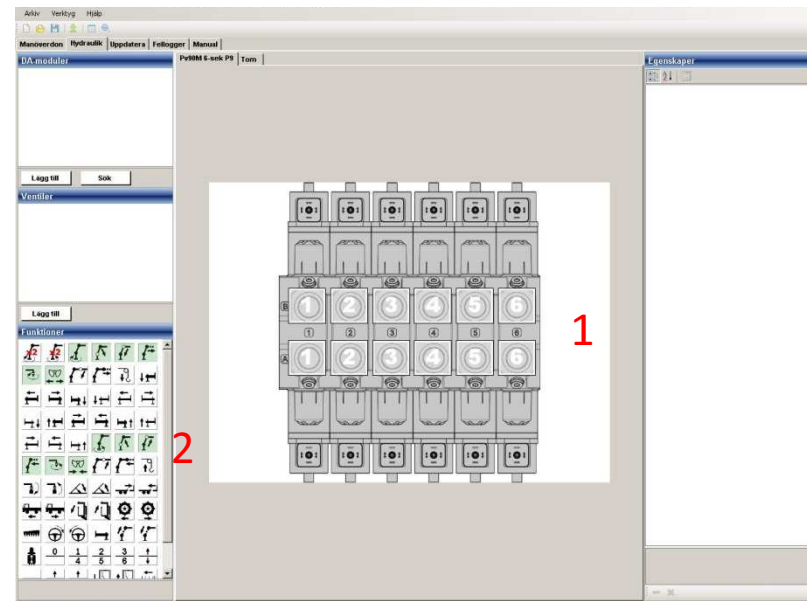

Figure 60. The valve block placed in the working area.
The valve sections of the valve block are numbered as per Figure 60 (1). The previously selected functions are marked with a green background on the area *Functions* see Figure 60 (2).